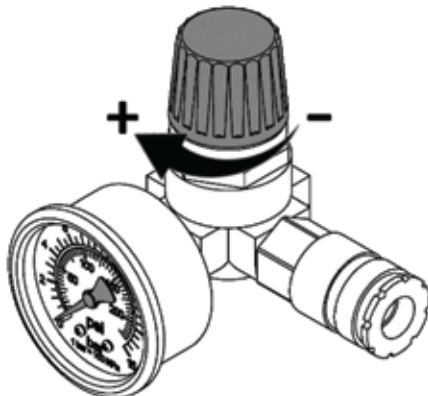

Figure 7
7.3.1 Adjusting Pressure for Connected Pneumatic Devices. Use the pressure control unit (Figure 7) as follows: